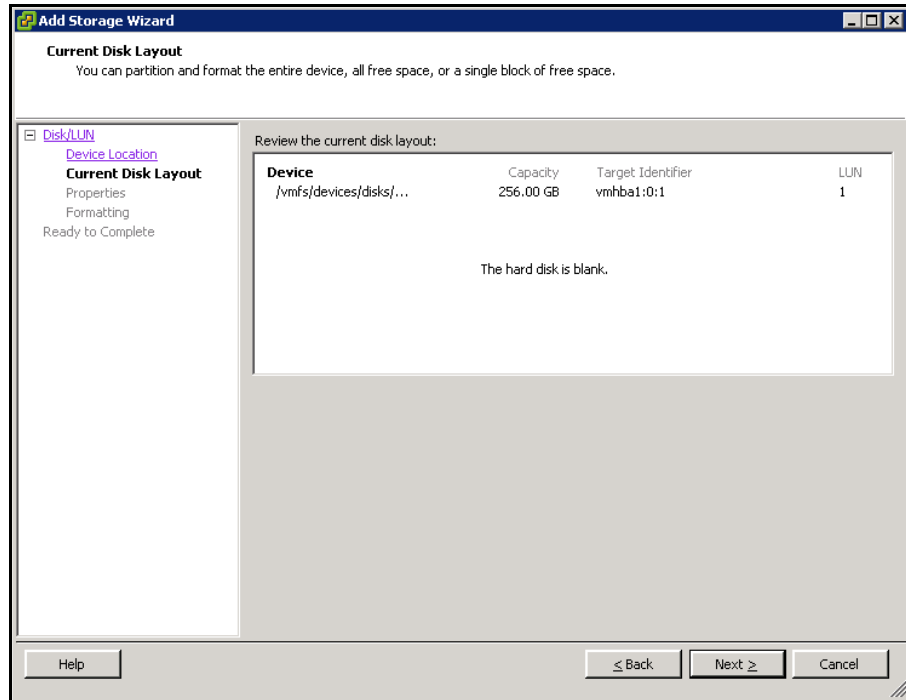

Figure 4-19: Current Disk Layout Screen (Add Storage Wizard)
17. Select the LUN on which you want to create the VMFS and click **Next**. The Current Disk Layout screen appears (Figure 4-19).